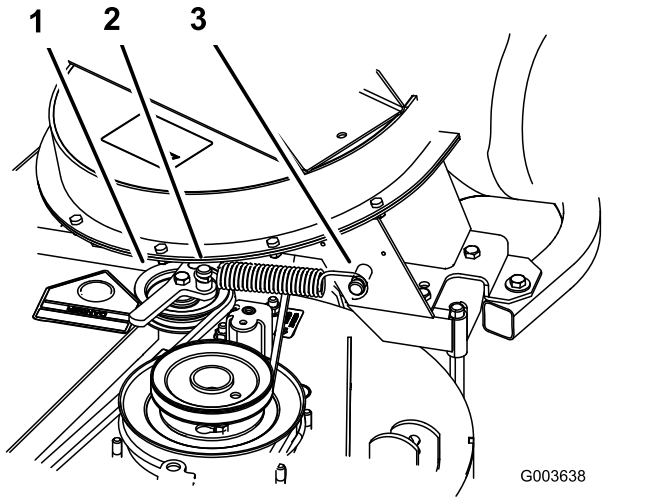

Figure 19
- Install the spring as shown in Figure 19.